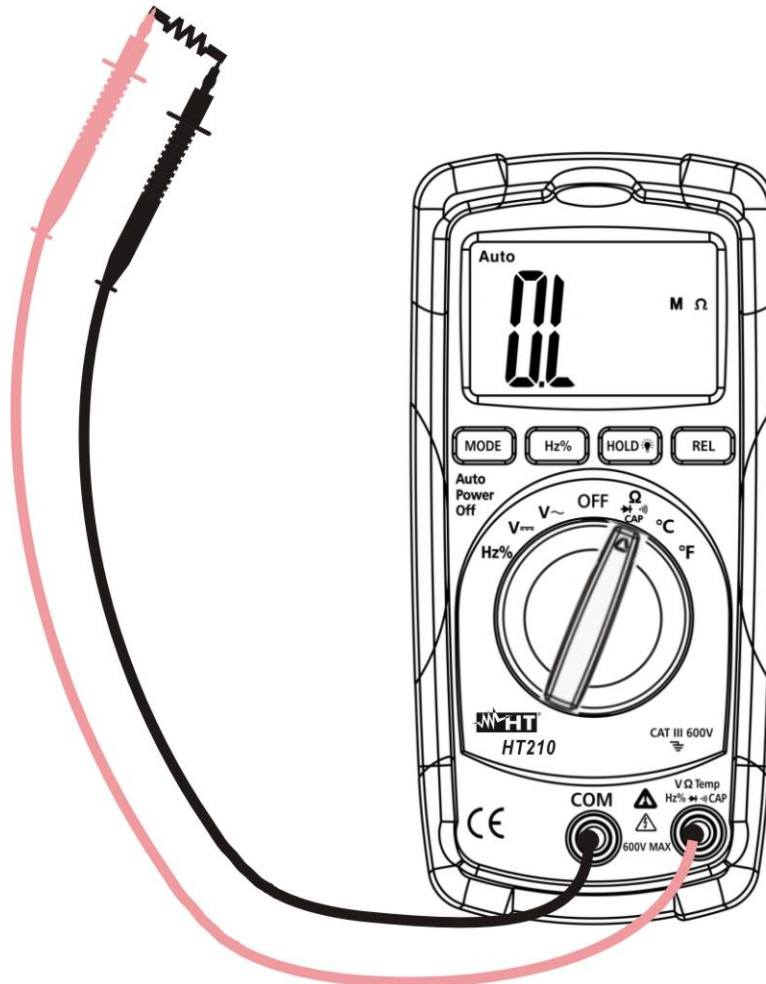

Fig. 4: Using the instrument for resistance and continuity test measurements
2. Insert the test leads into the jacks, the red plug into $V\Omega\text{TempHz}\%\text{CAP}$ jack and black plug into **COM** jack (see Fig. 4)